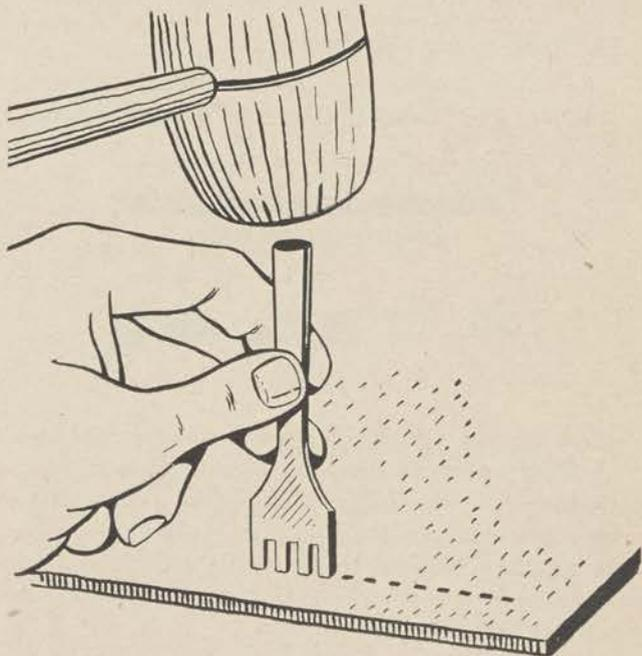

Figure 32.
f. For certain types of lacing, a slit is preferable to a round hole. These can be made with a three- or four-pronged chisel (fig. 32). A single-pronged chisel will also be needed for the corners.